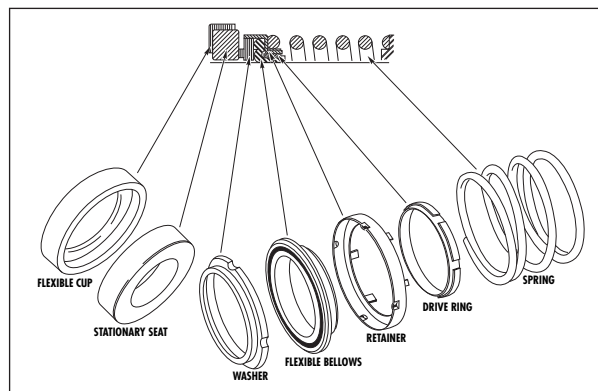

Figure 1. Mechanical Seal
III. Place the seal's spring, drive ring, retainer, flexible bellows, and washer on the shaft sleeve in respective order. (Refer to figure 1)
V. Place O-rings (50) around the seal glands and slide seal glands onto the ends of the shaft.
I. Place one seal seat in collar (54), the other one fits into seal gland (49). These parts are set into their cavities in the same manner as they are with a single seal.
II. Place o-rings (51) around collars (54) and put the collars with stationary seats facing away from impeller on ends of the shaft, then slide flexible bellows, washers, and springs on the shaft in order shown in figure 1, for each half of double seal assembly (53).